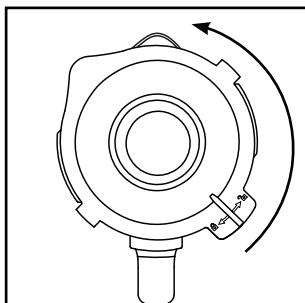

Fig. 1
- 1) Rotate the blender **③** anticlockwise until the arrow  under the blender handle is located above the  position. Remove the blender **③** from the motor block **⑥** in a vertical, upward motion.
- 2) Remove the lid **②** by rotating it anticlockwise towards position  (see Fig 1) until you can pull it upwards.
- 3) Fill the blender **③** to at least to the lowest line of the scale **⑧** and at most to the MAX mark. For optimum results, we recommend the following maximum filling quantities: